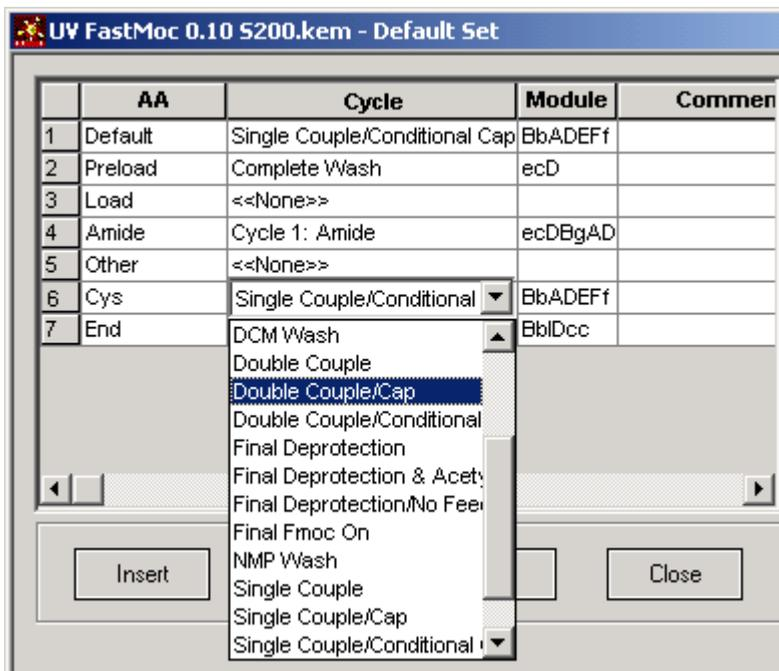

Figure 7-28 Selecting a Cycle for the Newly Inserted Amino Acid
- Select a cycle from the drop-down list (Figure 7-28), then press **Tab**.